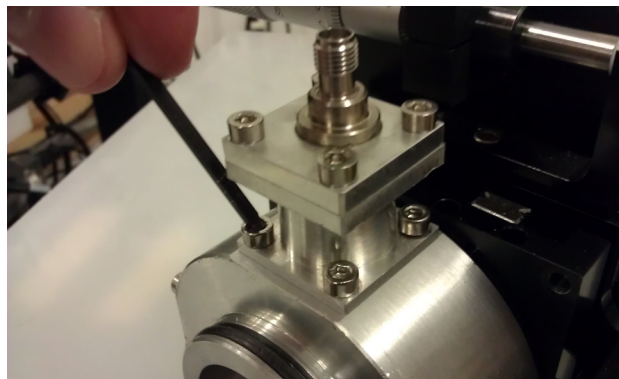

FIGURE 5-16 Remove the bottom set of four M3 screws
4. Using the 2.5 mm hex driver, remove the bottom set of four M3 screws that attach the cable feedthrough assembly to the probe arm base (FIGURE 5-16).
3. Using the 2.5 mm hex driver, attach the cable feedthrough assembly to the probe arm base with the bottom set of four M3 screws (FIGURE 5-16).